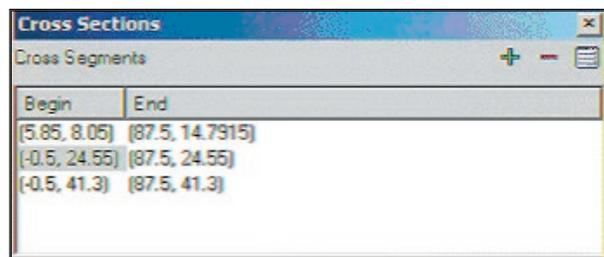

Figure 5. Cross-sections window.
- The **Cross-Sections** window (see Figure 5) is used to manage the generation of new cross-sections in the opened cell of the layout, and also to switch between existing cross-sections.